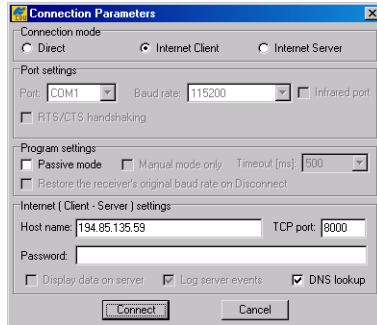

Figure 1-13. Internet Client Connection Parameters
2. Click **Connect** (Figure 1-13 on page 1-24).